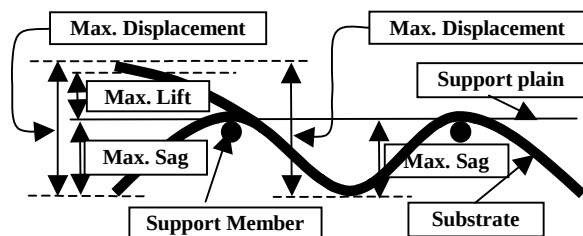

Figure 5
5.1.1.6 *maximum displacement* — two-dimensional maximum displacement (Max. Displacement) is defined by maximum lift (Max. Lift) + maximum sag (Max. Sag) + substrate thickness. Maximum displacement can have the same value at several different locations, as shown in Figure 5.